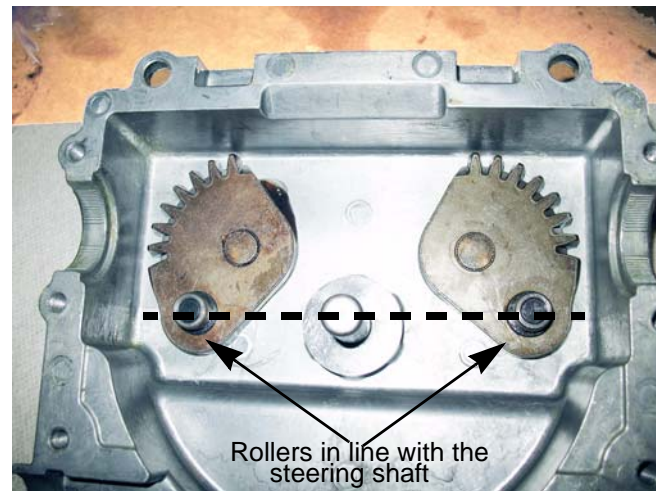

Figure 6.48
2. Install both of the bevel gears with the rollers in-line with the steering shaft. See Figure 6.48.